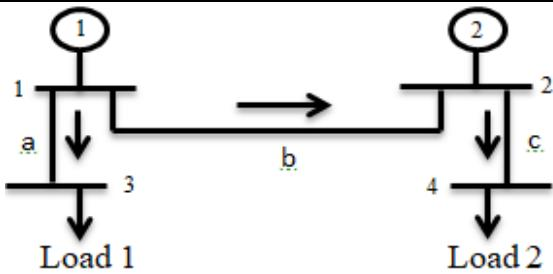

Fig.7(c)
c) Compute the loss co-efficient for the network shown in Fig.7(c)